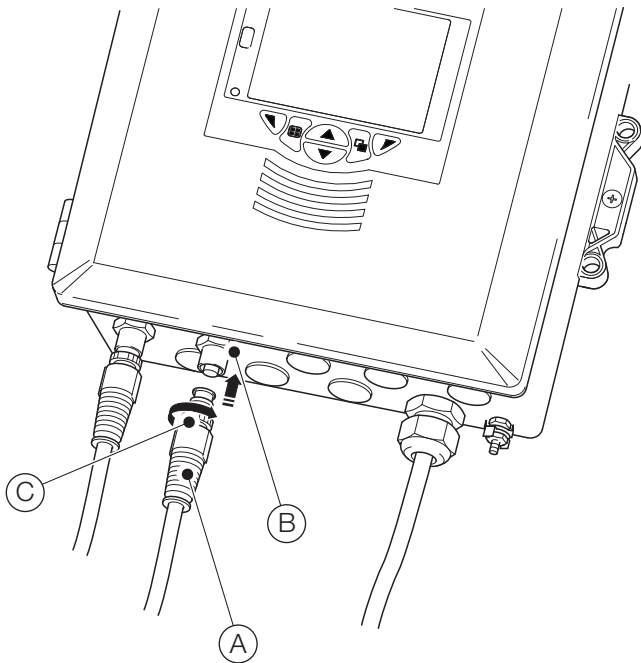

Fig. 4.5 Connecting the sensor EZLink connectors
Referring to Fig. 4.5:
1. Connect the sensor to the transmitter EZLink connector – see Fig. 4.5, page 12. The transmitter detects the new sensor automatically and loads the **sensor setup parameters** stored in the sensor. When upload is complete, the 'Easy Setup' prompt is displayed:
1. Disconnect the old sensor from the EZLink connector – see Fig. 4.5, page 12. The diagnostic message  **S1 (to 4):Removed** is displayed in the status bar at the bottom of the main *Operator* page.
2. Connect the new sensor to the same EZLink connector – see Fig. 4.5, page 12. A user prompt is displayed offering a choice of which configuration to use:
3. Press the  key (TX) to use the sensor configuration saved in the transmitter (used with the sensor previously connected) or press the  key (**Sensor**) to use the sensor configuration stored in the new sensor.